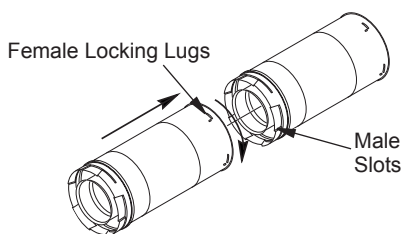

Figure 8 - Vent Pipe Connections
Twist-Lock Procedure: Female ends of pipes have locking lugs (indentations). These lugs will slide straight into matching slots on male ends of adjacent pipes. Push pipe sections together and twist one section clockwise approximately one-quarter turn until sections are fully locked (see Figure 8). *Note: Horizontal runs of vent must be supported every three feet. Use wall straps for this purpose.*
2. Assemble desired lengths of pipe and elbows necessary to reach from fireplace flue up through firestop. Be sure all pipe and elbow connections are fully twist-locked (see Figure 8, page 9).